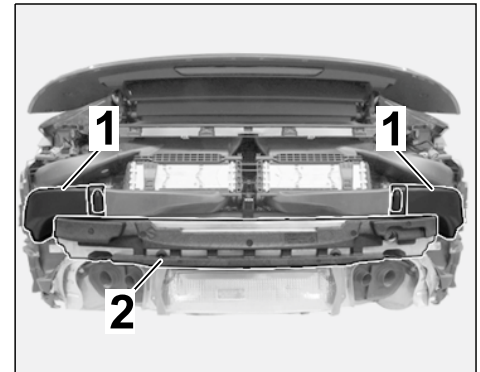

Figure 4
- 1.5 Remove rear bumper (\Rightarrow *Workshop Manual '635019 Removing and installing rear bumper'*, \Rightarrow *Figure 4*)